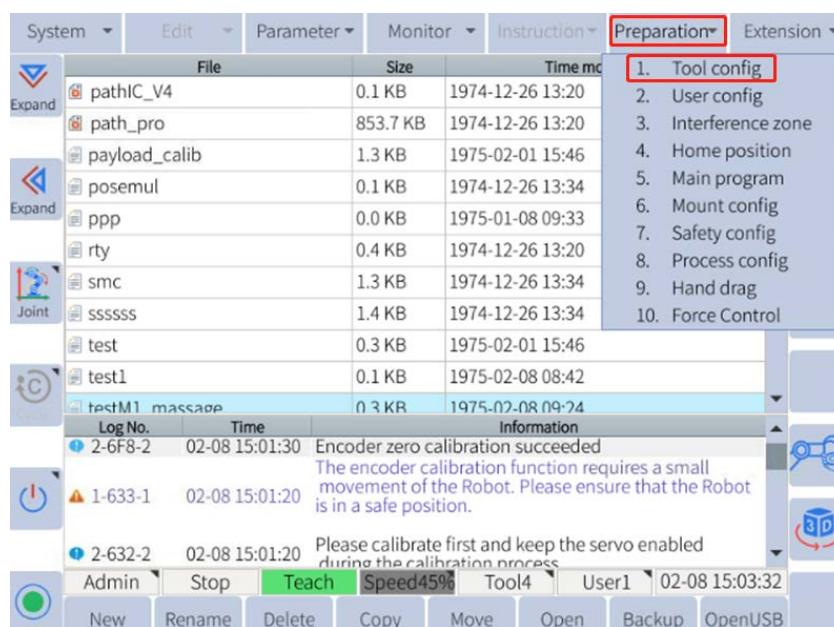

Figure 6-34: Preparations->Tool config in the top menu bar
1. Click **Preparations->Tool config** in the top menu bar, as shown in Figure 6-34.